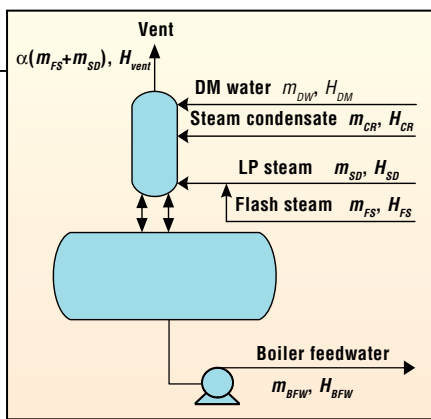

FIGURE 5. A deaerator removes dissolved gases from treated water before it enters a boiler
Proper optimization of a steam network does not only involve turbines — other pertinent equipment, like deaerators, must also be considered in the model. A diagram of a typical deaerator is shown in Figure 5. Deaeration is the removal of dissolved gases, such as oxygen or carbon dioxide, from the treated water prior to its introduction into the boiler. Assuming a fraction of flash steam is lost in the vent, material and energy balances around the deaerator are given by Equations (9) and (10).